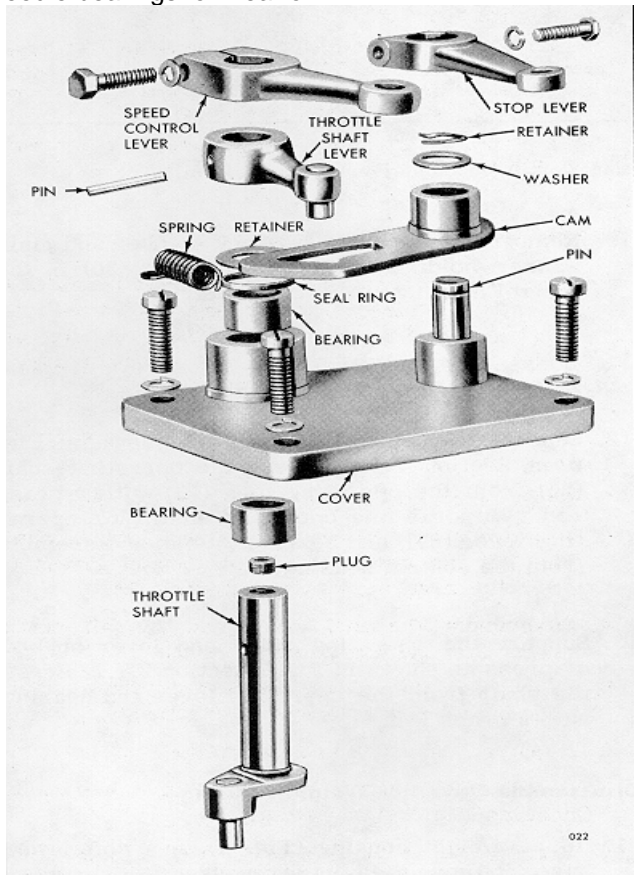

Fig. 2 - Governor Cover Details and Relative Location of Parts
1. Remove the plug from the throttle shaft (Fig. 2).